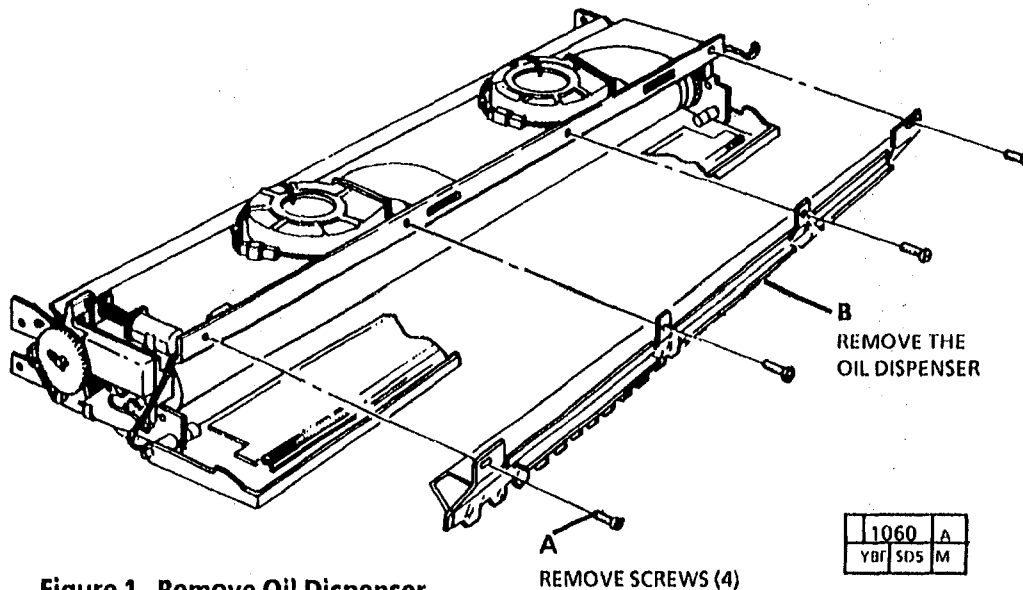

Figure 1. Remove Oil Dispenser Assembly
3. (Figure 1): Remove oil dispenser assembly.